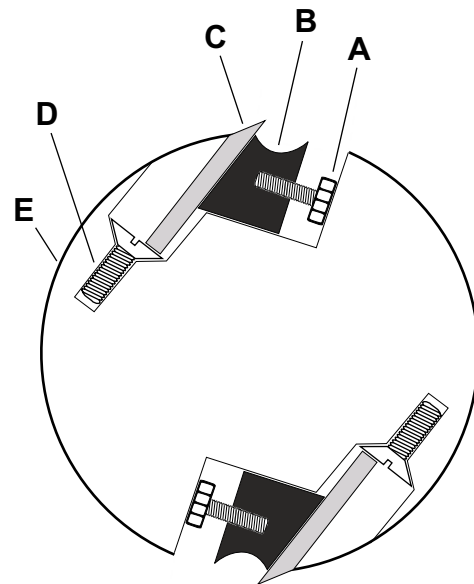

Figure 15
3. Rotate the *cutterhead* (E) until one knife is in the 12 o'clock position. The 12 o'clock position is the highest point a blade will reach in the cutting arc (C, Fig. 15).
4. Place the *knife setting gauge* (J) on the *outfeed table* (F). One end of the gauge should be positioned over the *cutting knife* (C) towards the near the end of the blade (G).